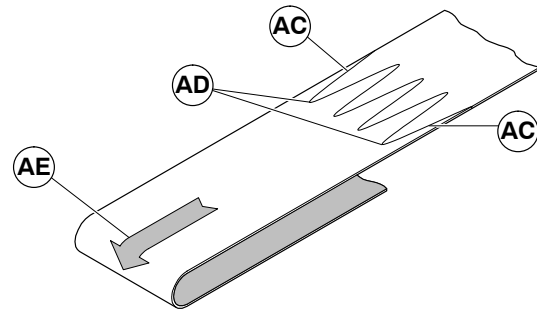

Figure 15
1. Insert belt (AA of Figure 14) inside frame. Orient belt so belt splice leading finger (AD of Figure 15) points in direction of travel (AE) and trailing finger (AC) is as shown. Belt must run toward bottom wiper (CF of Figure 14).